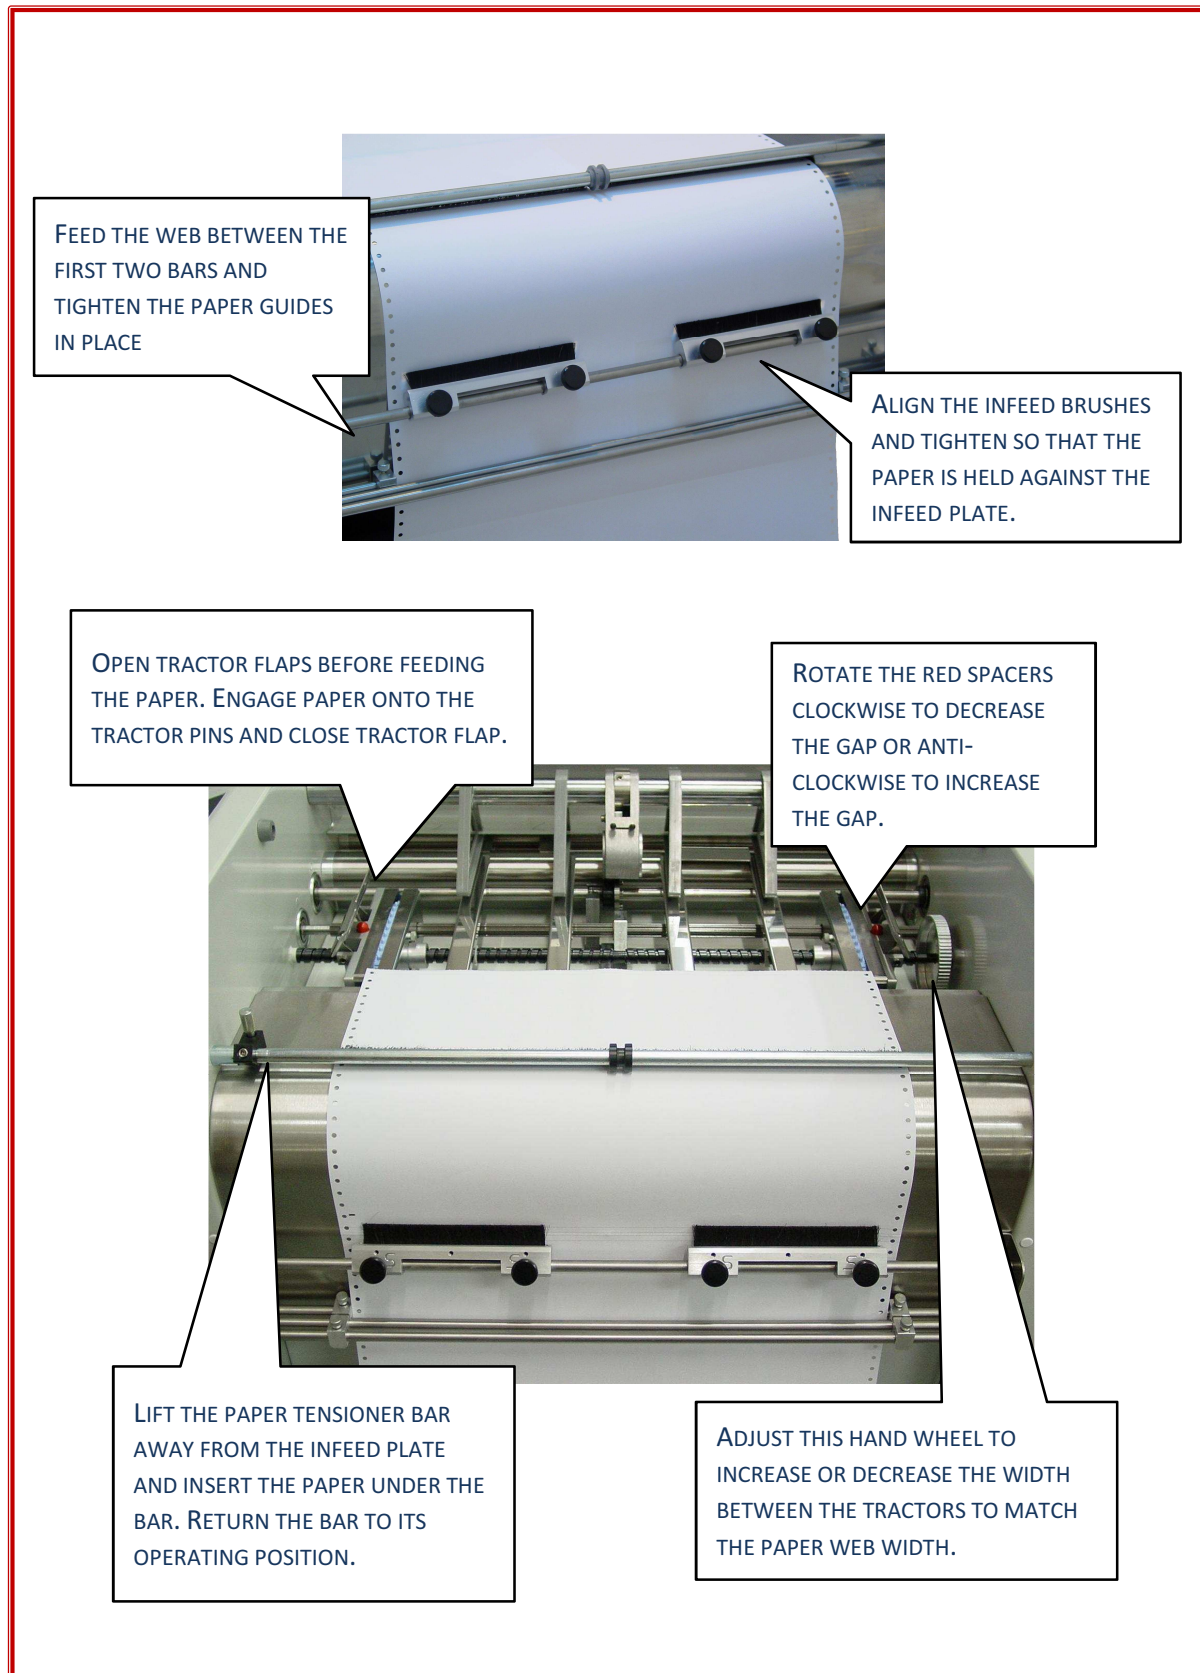

Fig 2.6 Loading the Web - No Printer Interface
- Refer to Figs 2.6 thru 2.9 to familiarize yourself with the sequence of operation, controls and paper deck adjustment requirements before attempting to load and operate the unit.
- Follow the sequence given in Fig 2.6 and check that the web is being processed as required.